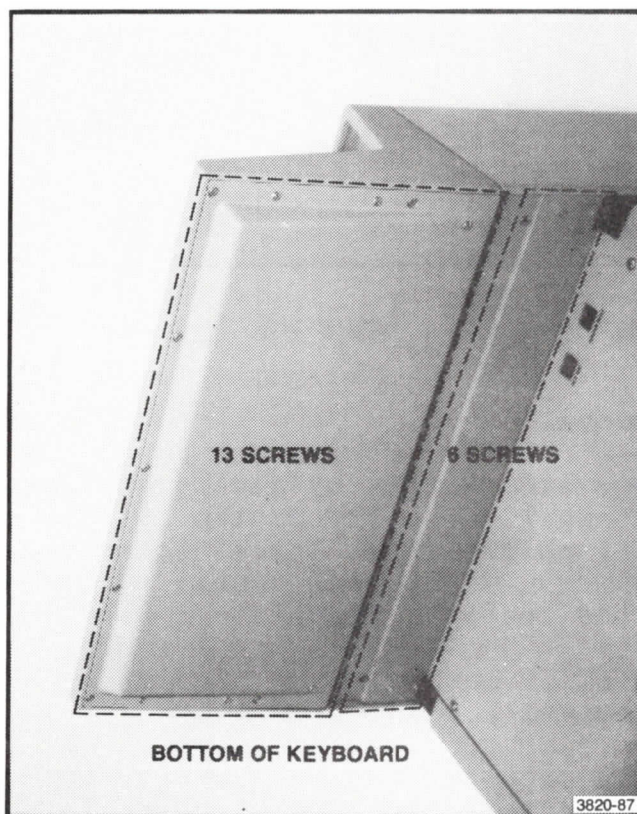

Figure 11-11. Two Covers Below Keyboard.
4. Remove the two covers underneath the keyboard. One is fastened by thirteen screws. Remove this cover. The second cover is held by six screws -- three on each side. Remove this cover. (See Figure 11-11.)
1. Remove the cover directly underneath the keyboard. It is fastened by thirteen screws. (See Figure 11-11.) This exposes the bottom of the keyboard.